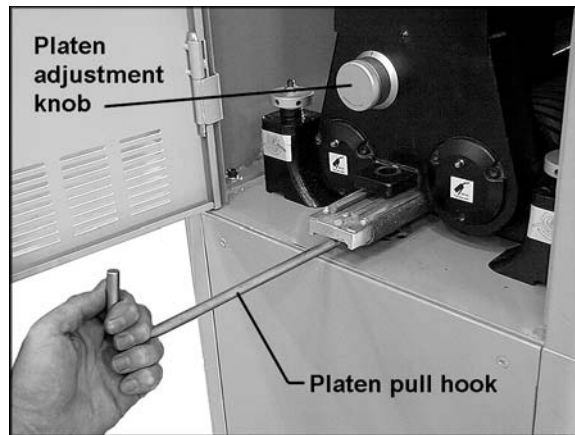

Figure 10
The height of the platen is set at the factory, but can be re-adjusted by rotating the platen adjustment knob (Figure 10). Each mark on the scale indicates a raising or lowering measurement of 0.005mm. One complete rotation of the scale moves the platen 0.2mm or approximately 8/1000 of an inch.
2. Place the platen pull hook into the hole on the end of the platen and pull out the lower portion of the platen assembly, as shown in Figure 10. NOTE: The platen is tightly fitted and will require a firm pull with the pull hook.